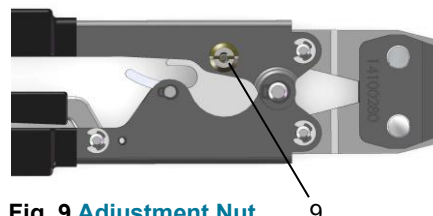

Fig. 9 Adjustment Nut 9
1. Using a straight blade screwdriver, loosen the **Adjustment Nut (Fig. 9)**.